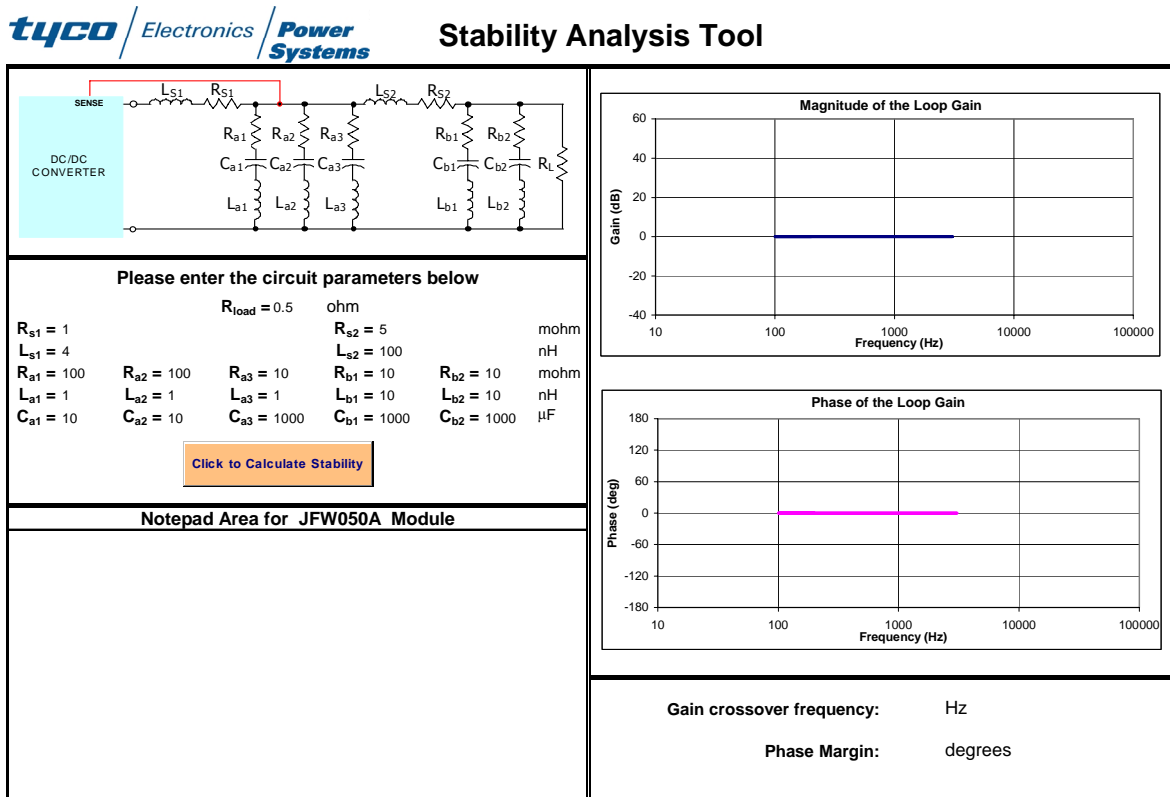

Fig. 4. Page for entering and editing circuit parameters, shown for the case of configuration 4.
- Click on the configuration picture suitable for your application. In this example, we will choose Configuration 4. Clicking on the picture will bring that configuration's page as shown in Figure 4.